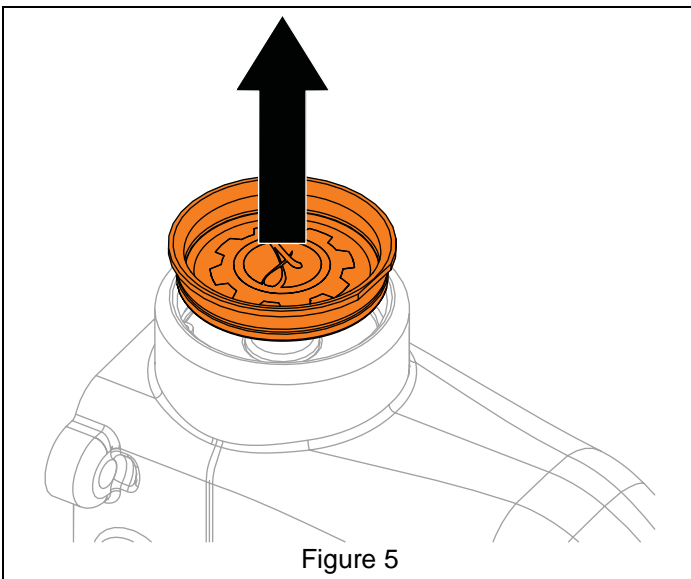

Figure 5
9. With a flathead screwdriver or similar pry bar, remove front seal cover and discard. See Figure 5.